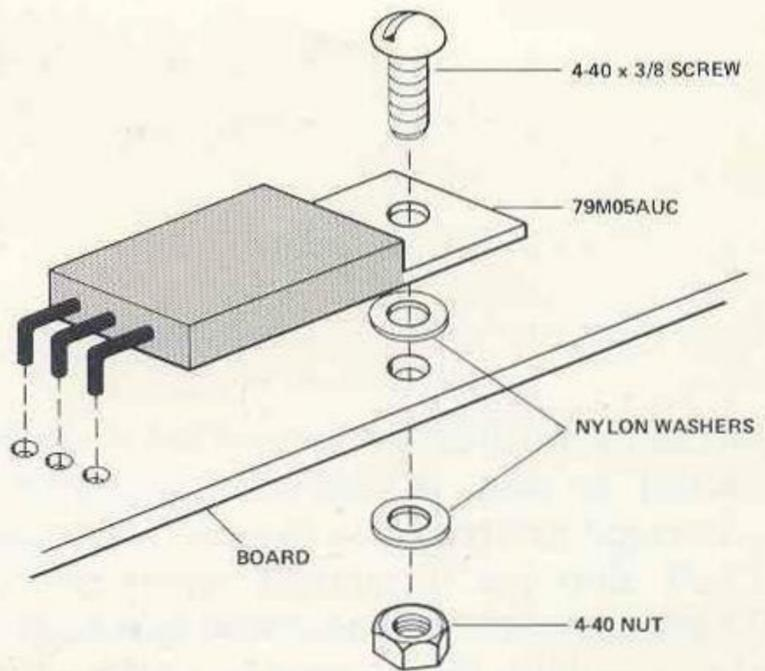

Figure 2-11. Voltage Regulator (VR1) Installation.
- ☑ Referring to Figure 2-11, fasten the regulator to the board with a 4-40 x 3/8 screw, 2 #4 nylon washers, and a 4-40 nut.